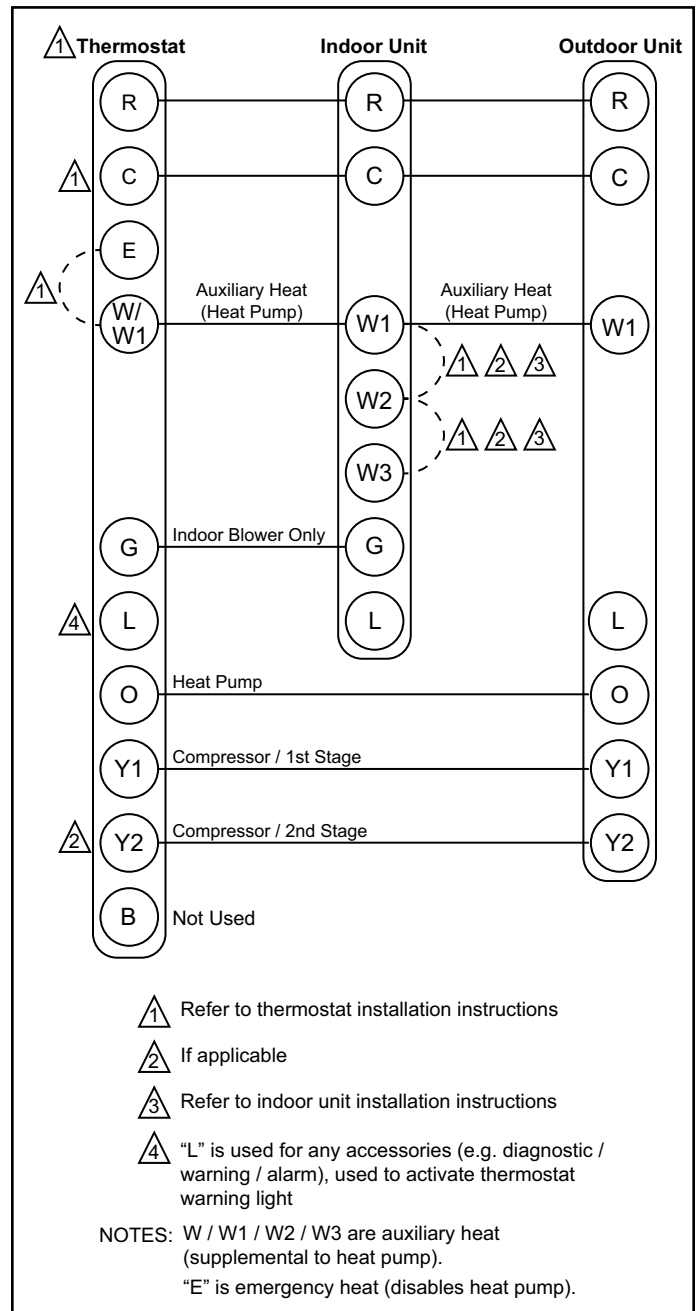

Figure 6. Thermostat Designations - Non-Communicating
4. Install low voltage wiring from outdoor to indoor unit and from thermostat to indoor unit (see Figure 6).
See Figure 6 for thermostat designations.